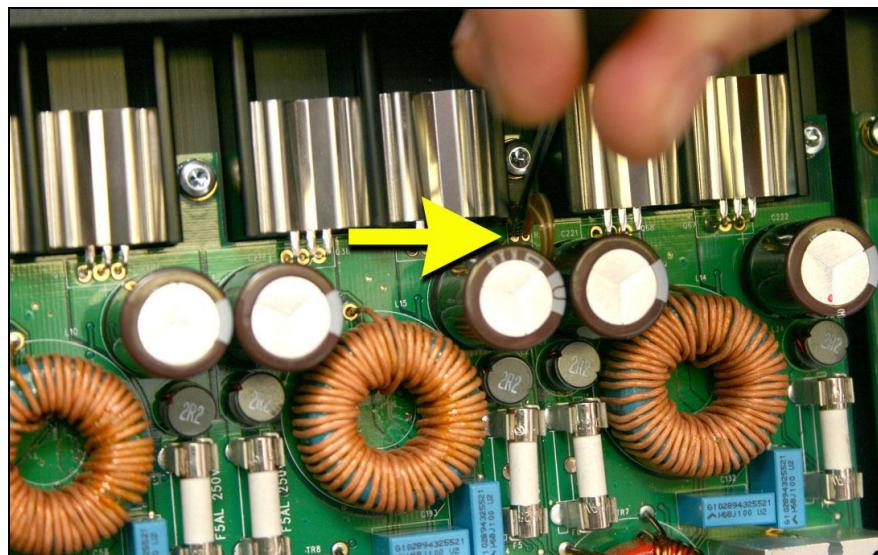
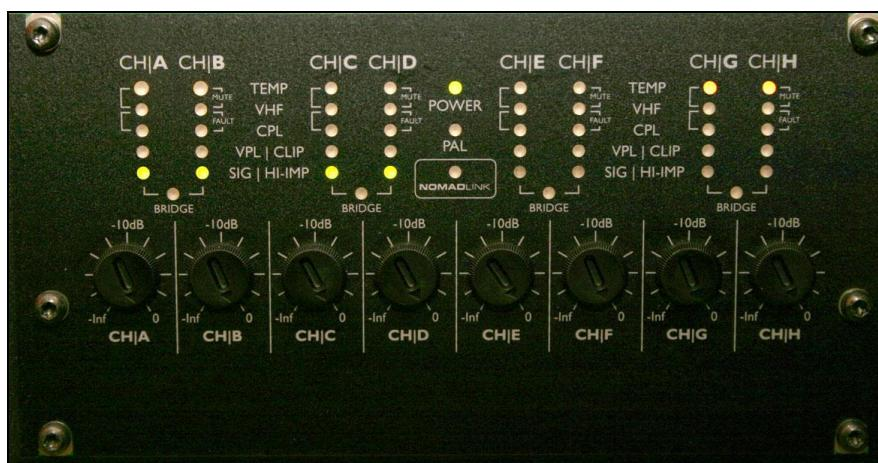

Fig. 26
Fig. 27
23.	Check channel G & H (fig. 26). At the same time look at the led's on front panel (fig. 27).